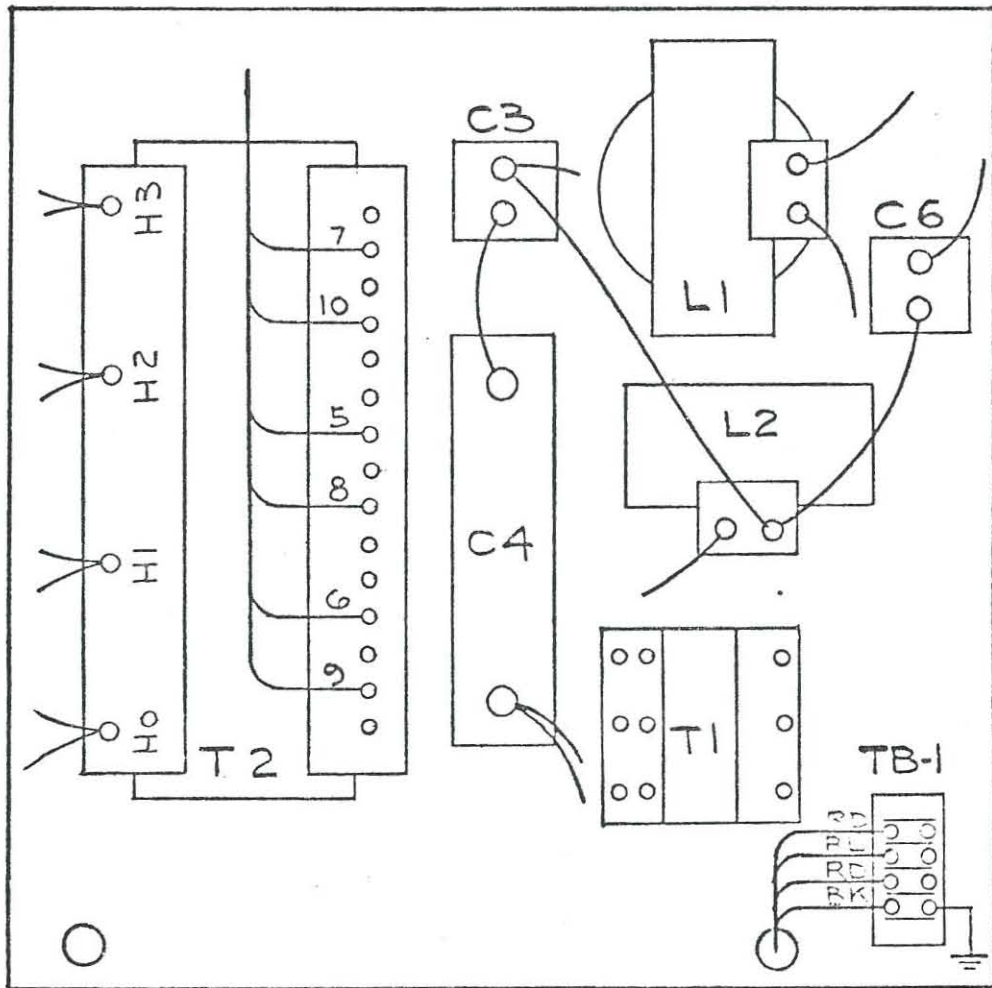

Figure 4-2. FM-20, 000E Cabinet Floor (Top View)
1. Using Figure 4-2, as a guide for parts location, install the following components on the cabinet base:
7. Refer to Figure 4-2. Install the high voltage plate transformer (T2) in its proper position and connect the appropriately marked wires to both primary and secondary terminals.